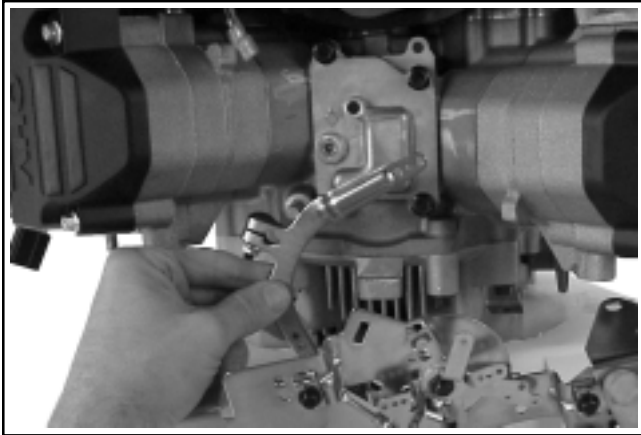

Figure 9-19. Removing Main Bracket and Governor Lever.
4. Remove the throttle control bracket, governor lever, and governor spring as an assembly. See Figure 9-19.